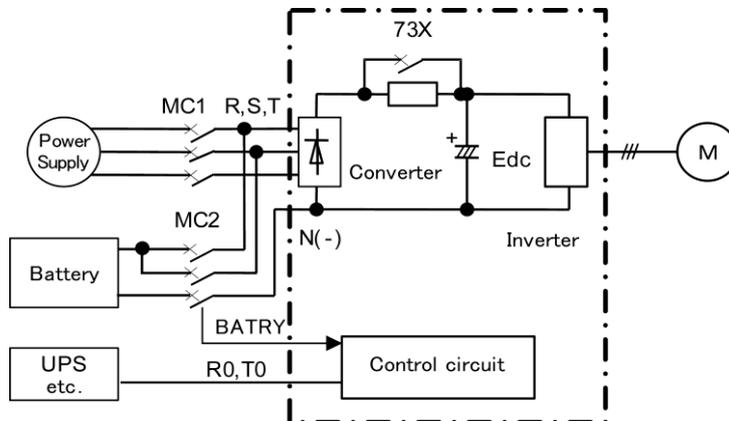
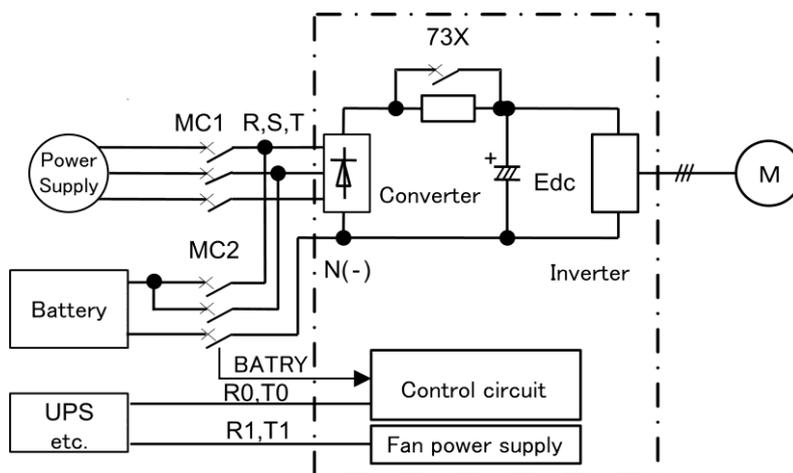
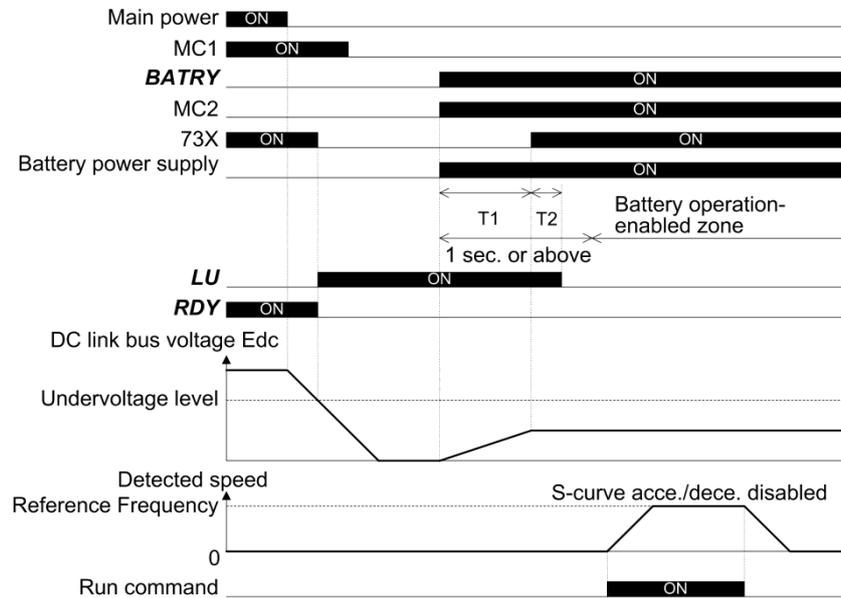

Figure 5.3-7 Connection diagram example (VXT-115A-2 or below, VXT-168A-4 or below)
Figure 5.3-8 Connection diagram example (VXT-203A-4 or above)
Figure 5.3-10 Battery operation timing chart
- (1) Terminal function **BATRY/UPS** (data = 59) can be assigned to any digital input terminal.
- (2) As shown in Figure 5.3-7 and Figure 5.3-8, DC link bus voltage is supplied from the battery to the main circuit (L1/R-L3/T or L2/S-L3/T).
- (3) The specified voltage (sinusoidal waveform or DC voltage) is input to auxiliary power terminal (R0-T0).
- (4) In case of VXT-203A-4 or above, input the specified power supply (sinusoidal waveform) to the fan power supply auxiliary input (R1-T1) as shown in Figure 5.3-9, and change the fan power supply switching connector as shown in Figure 5.3-10 in order to execute the battery operation.
- (5) The terminal that **BATRY/UPS** (data = 59) is assigned has to be turned on simultaneously with the MC2.